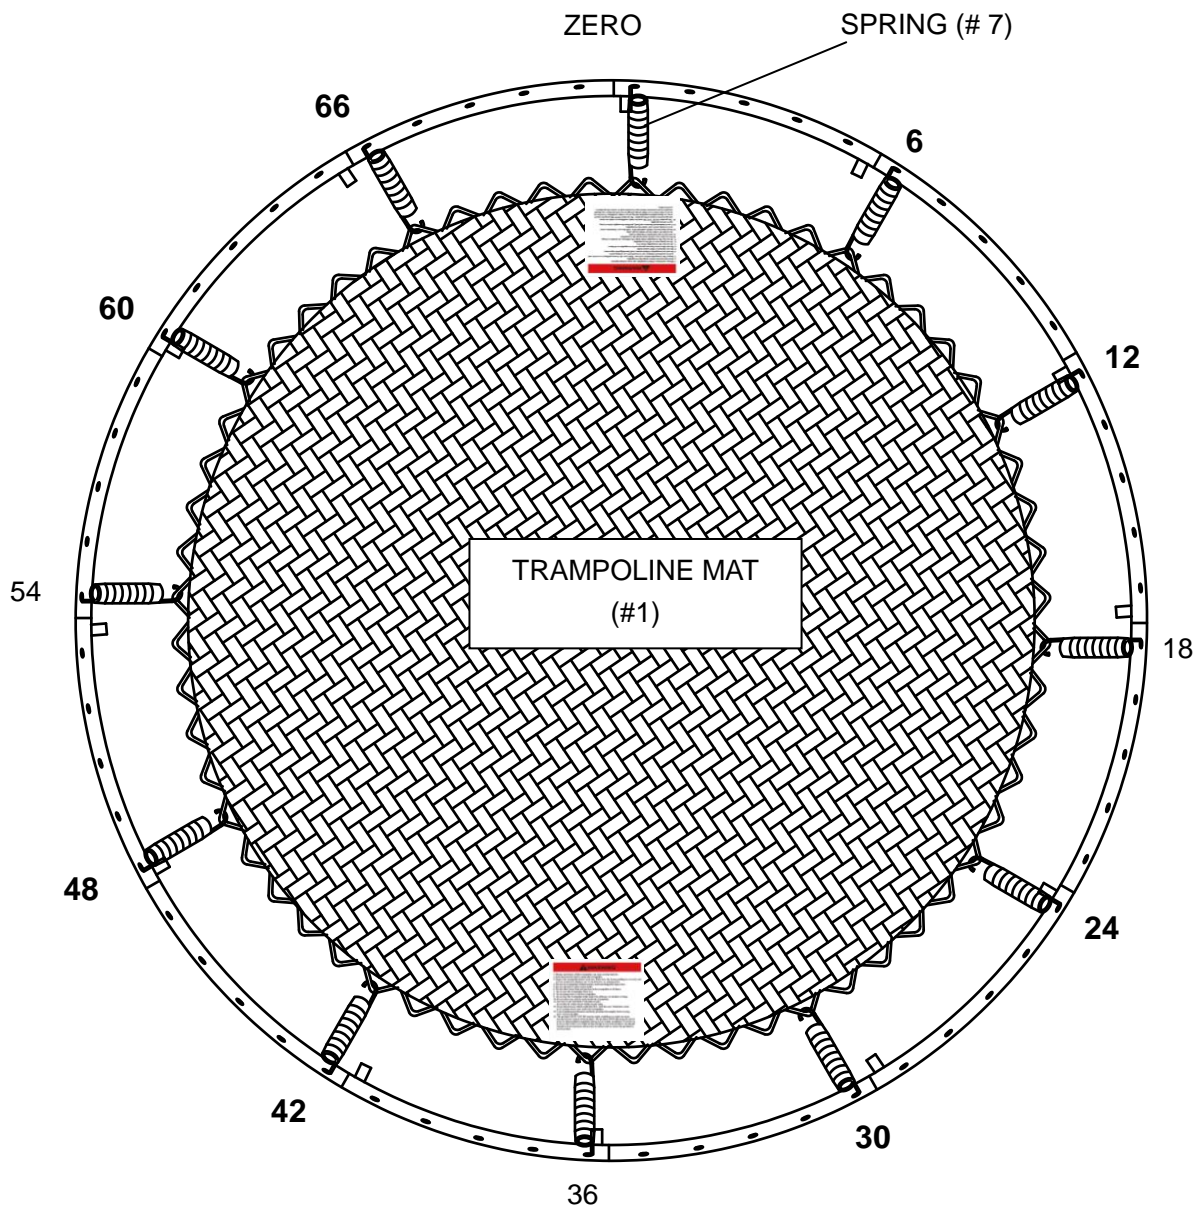

FIGURE 11
F. Attach a spring at every 6 holes and corresponding Triangle-Rings. For even distribution of tension and ease of assembly, springs should be placed on opposite sides of the mat/frame.....i.e. 6 then 42, 12 then 48, 60 then 24, 66 then 30, etc. In addition to the previously installed springs, you should have springs at 6, 12, 24, 30, 42, 48, 60 and 66 as shown in FIGURE 11.